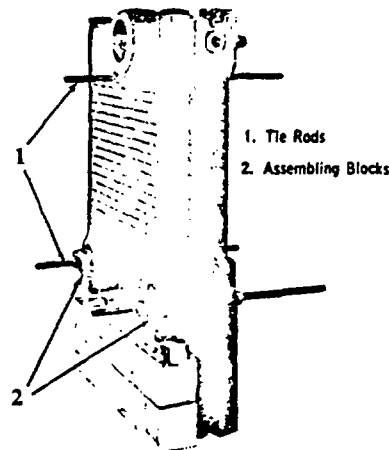

FIG. 3—Assembling Sections
6. Place sections in upright position and support with suitable blocking. Sections should stand approximately in their final position with Front facing correctly. See Fig. 3 (Note Cleanout openings are at front of boiler).
Place assembling blocks on lower rods across nipple ports as shown on Fig. 3 placing nuts and washers on all rods. Draw up evenly on all tie rods, starting with lower tie rods. Tighten nuts alternately and bump sections with heavy block of wood at nipple ports to facilitate assembly. Continue to draw up alternately until sections make contact at ground